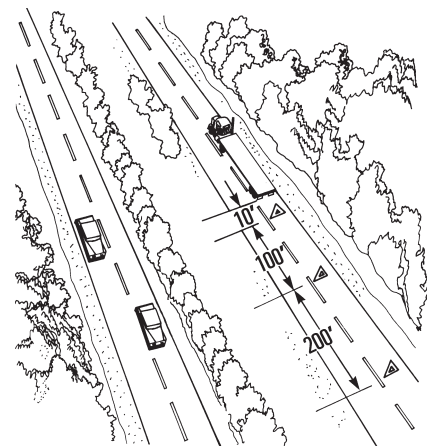

Figure 2-7 One way or Divided Highway
- If you must stop on or by a one-way or divided highway, place warning devices 10 feet, 100 feet, and 200 feet toward the approaching traffic. (Figure 2-7)